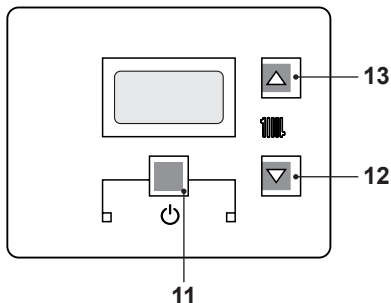

Fig. 2.5
- Press the key 11 for 2 seconds until  symbol appears on the display Fig. 2.5.
The output temperature of c.h. water can be adjusted by acting on keys 12 (reduce) and 13 (increase) (Fig. 2.5) from a minimum of about 25°C to a maximum of about 85°C. Press one of the two keys once to display the "set" value. Press again to access the modification.
However, if the ambient temperature is not comfortable, the flow temperature of the heating plant can be increased or reduced by  $\pm 15^\circ\text{C}$  by acting on keys 12 (reduce) and 13 (increase) (Fig. 2.5).